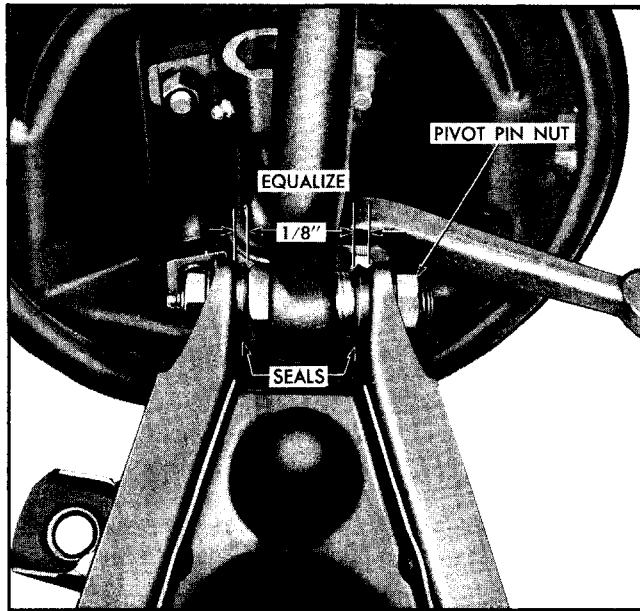

Fig. 3-16 Lower Pivot Pin Assembly
3. Remove nut from rear of lower pivot pin (Fig. 3-16).
8. Position rubber seals at lower pivot pin bushing (Fig. 3-16). Hold bushing with knuckle support in a central position in forked end of lower control arm and install lower pivot pin and lockwasher after coating threads on pin with chassis lubricant. **NOTE:** Lower pivot pin must be centered, within one thread, between ends of control arm after lock nut has been tightened (Fig. 3-16).